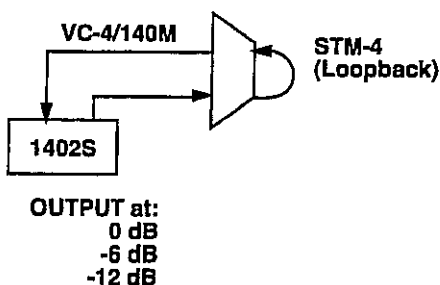

Figure 2-13
2. Set the **TEST MODE** switch to SDH. (For the setup shown in Figure 2-13, set TEST MODE to SDH.)